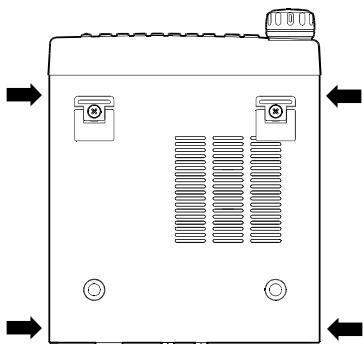

Figure 1
1. Remove the four screws affixing the bottom cover, then remove the bottom cover (see Figure 1).